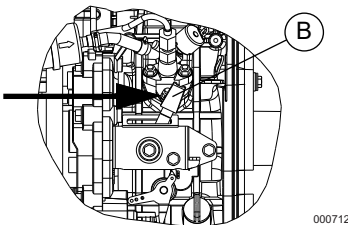

Figure 3-3. Engine Control Lever
5. See Figure 3-3. Switch engine control lever to Run (B).
See Figure 3-3. To re-start engine, the engine control lever must be moved to Run (B).